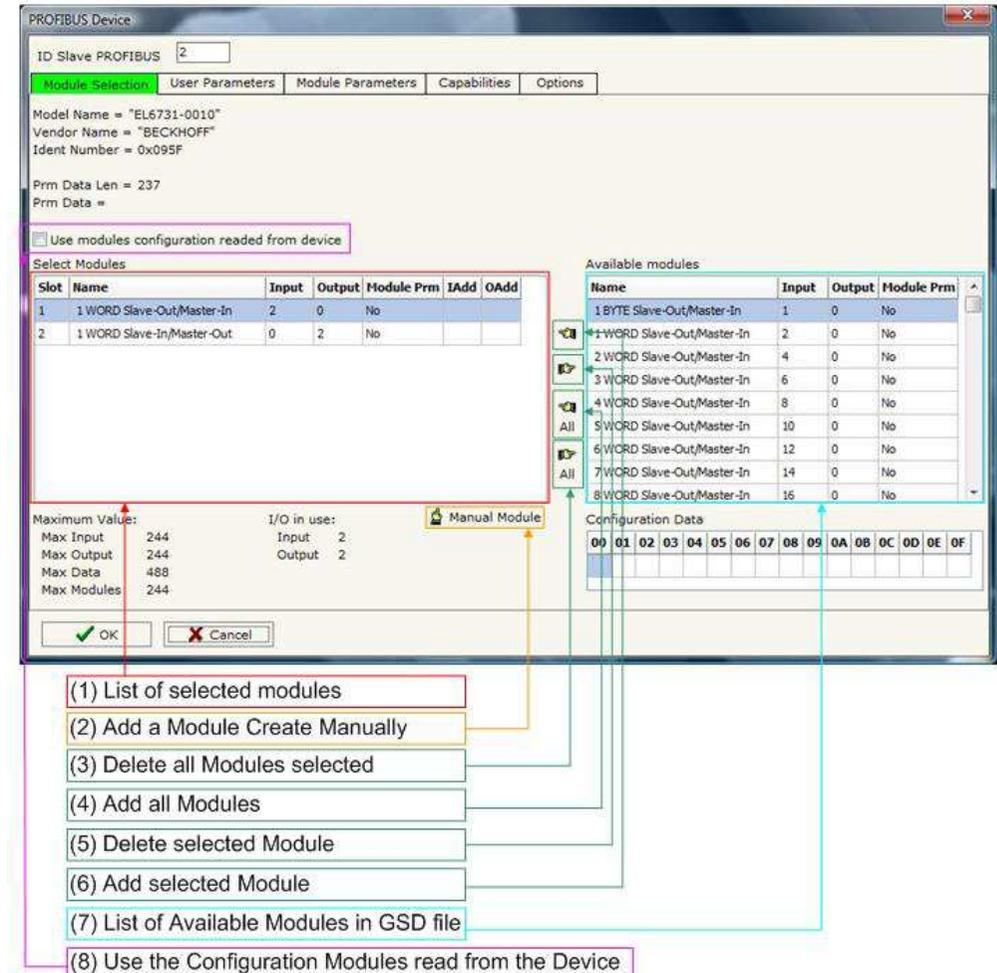

Figure 7: “PROFIBUS Device – Module Selection” window
The section “Module Selection” is used to select which Modules are present in the Slave (Fig. 7).
- Check the list of the Modules selected (“Select Modules”) (Fig. 7, point (1)) and the list of Modules Available in GSD file (“Available Modules”) (Fig. 7, point (7));
- Add a Module from the list of GSD file (Fig. 7, point (6));
- Remove a Module from selected list (Fig. 7, point (5));
- Add all Modules present in the GSD file (Fig. 7, point (4));
- Remove all Modules from selected list (Fig. 7, point (3));
- Insert a Module not present in the GSD file (“**Manual Module**”) (Fig. 7 point (2)). For more info see the section “Manual Module” below;
- Enable the read of configuration directly from the PROFIBUS Slave (“**Use module configuration readed from device**”) (Fig 7, point (8)). If this option is enable the configuration of the modules is discarded and the device read the correct configuration directly to the PROFIBUS slave.
To modify a Module inserted manually, is necessary to do a double click on the module to change in the "Select Module" list (Fig. 7, point (1)). It is possible to change only the module inserted manually.